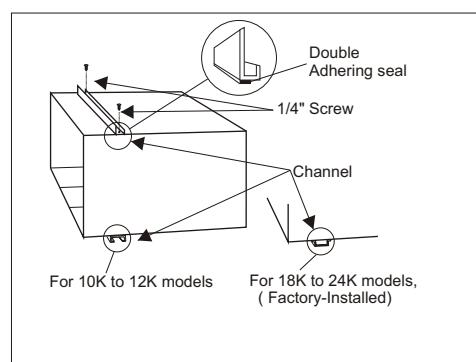

Fig. 3
A. "L" Shaped Top Channel: Stick the double adhering seal to the "L" shaped top channel, and then Install the "L" shaped top channel to the cabinet as shown in (Fig. 3) using (5) 1/4" screws.
B. "n" Shaped Bottom Channel installed as shown in (Fig. 3) using (4) 1/4" screws.